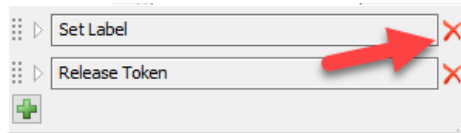

Figura 44- Release Token
- On wait Timer fired >  > Exclua o set label (Figura 44);